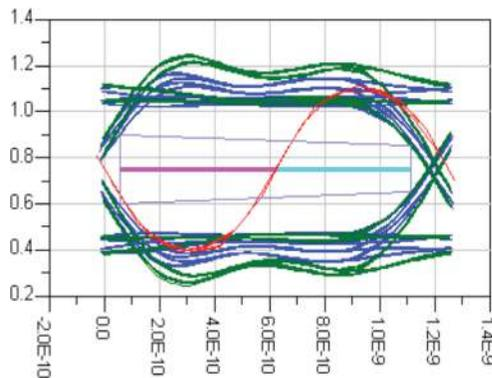

Figure 1. Data eye with phase reference and AC/DC “tSH” measurement
In the beginning there was transient simulation. Ensuring functional chip-to-chip links in a system meant performing a time-domain simulation with a SPICE simulator. The result was a time-domain waveform that was evaluated during post processing for signal integrity (SI). The main task was to measure the eye diagram, usually assuming a perfect clock as the phase reference (Figure 1). Due to rising signaling speeds and decreasing timing margins, the task was made more challenging when it became necessary to account for other effects. For chip-to-chip communication systems that used an embedded clock, the phase-locked-loop behavior was taken into account and the jitter simulated or subtracted from the remaining timing margin of the eye. For source synchronous signals, the clock was also simulated and used for setup/hold calculations or data eye generation. In addition to link architecture changes, simulation accuracy had to be improved to account for the decreased margins, resulting in complex modeling that took into account even small parasitics.